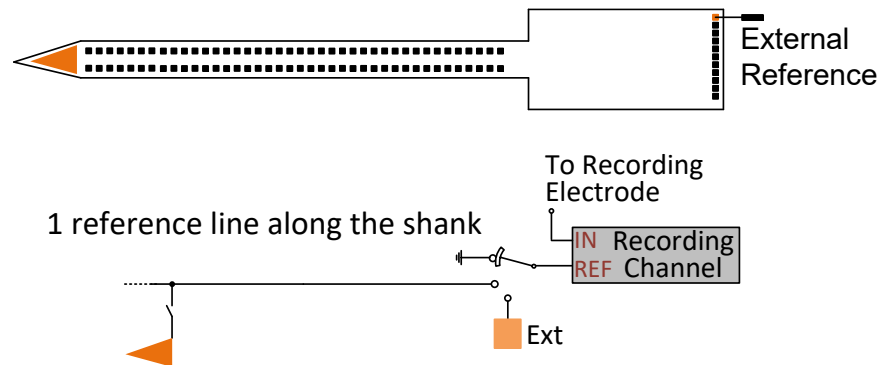

Figure 39: Reference selection
- Ground reference: the reference input is connected to the ground of the ASIC. This selection is an alternative for shorting the reference and ground pads on the flex arms. This configuration is intended to replace the use case where the user is shorting reference and ground on the flex arms by soldering. The reference selection is channel-independent, and each channel can only connect to one of the three reference inputs simultaneously (Figure 39).